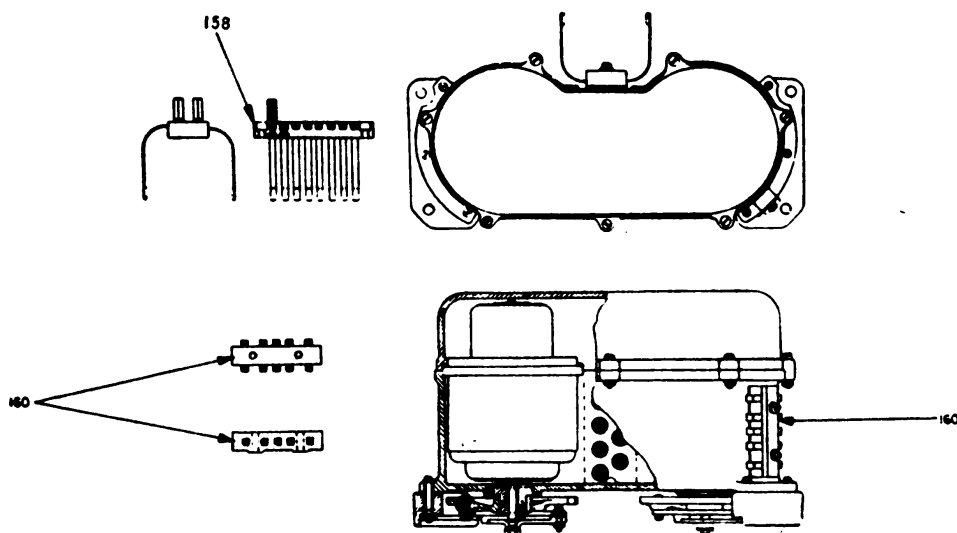

FIGURE 4.
- (1) Disconnect the wires on terminal block 160, figure 4.*
(3) Bring assembly forward until gears on under side are free. Taking care not to distort the brush springs in the rear 158, figure 4, lift assembly up toward elevation handwheel until unit is clear of main case housing. Set transmitter assembly down in an inverted position to avoid damage to couplings or gears.